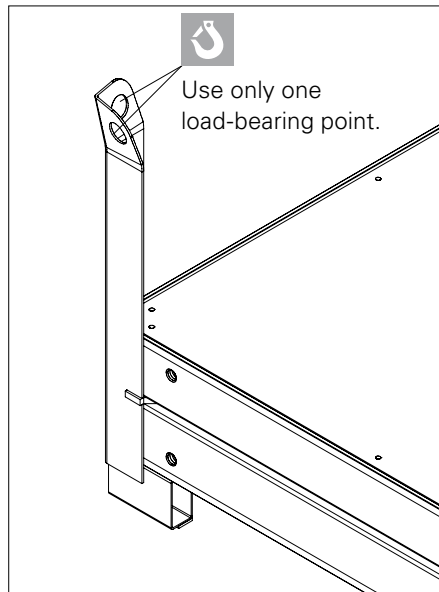

Fig. A1.13
2. Place the second panel with the formlining facing upwards into the Stacking Device. (Fig. A1.13)
3. Position Stacking Aid MX (2) – 2 per longitudinal side.
5. Alternately place Stacking Aid (2) and panels with the formlining facing upwards until the maximum number of panels has been reached.